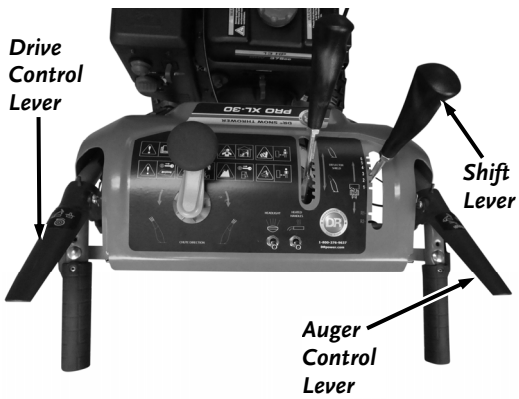

Figure 30
4. Make sure the Snow Blower Auger is clear of snow before engaging the Auger Control Lever (**Figure 30**).